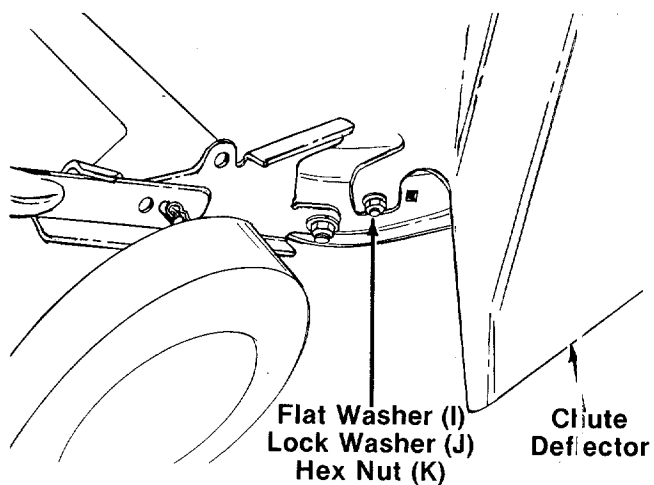

FIGURE 12.
6. Secure the back of the deflector in the same manner. See figure 12.